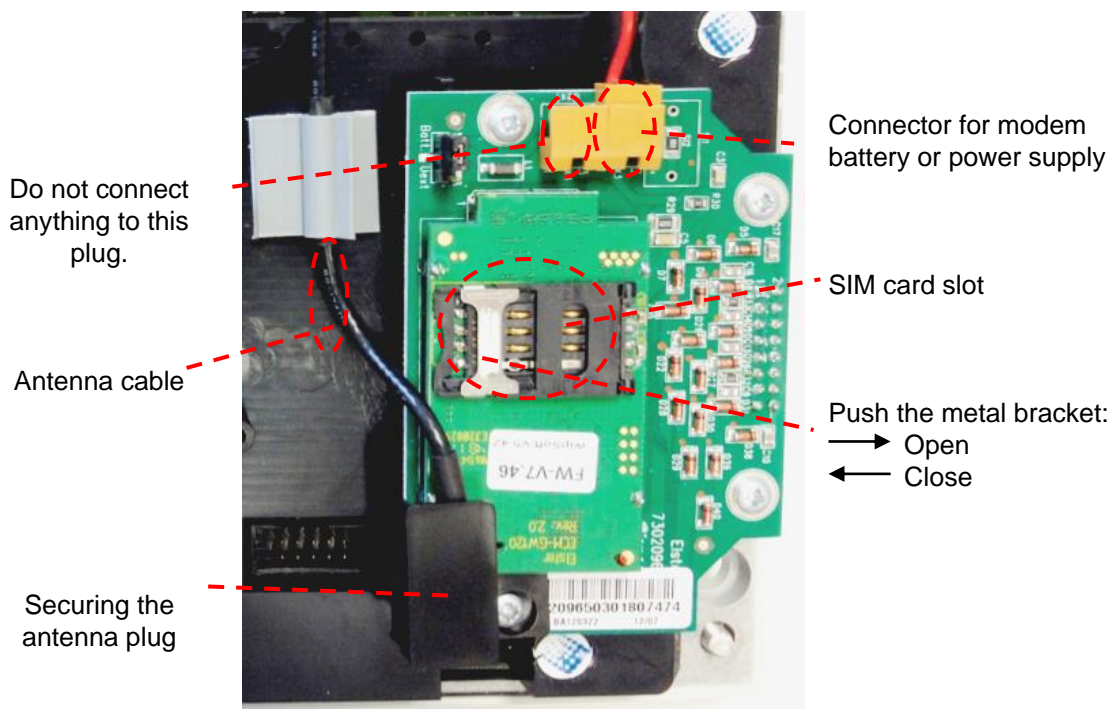

Fig. 7: Modem and SIM card slot
- For version with power supply unit: Disconnect the modem backup batteries if applicable from the internal power supply! (see Fig. 7)
The connection between the internal power supply and the modem remains! (siehe Fig. 7)
- For version without power supply unit: Disconnect the modem battery from the modem (siehe Fig. 7).
- Make sure the internal power supply is connected to the modem. (see Fig. 7)